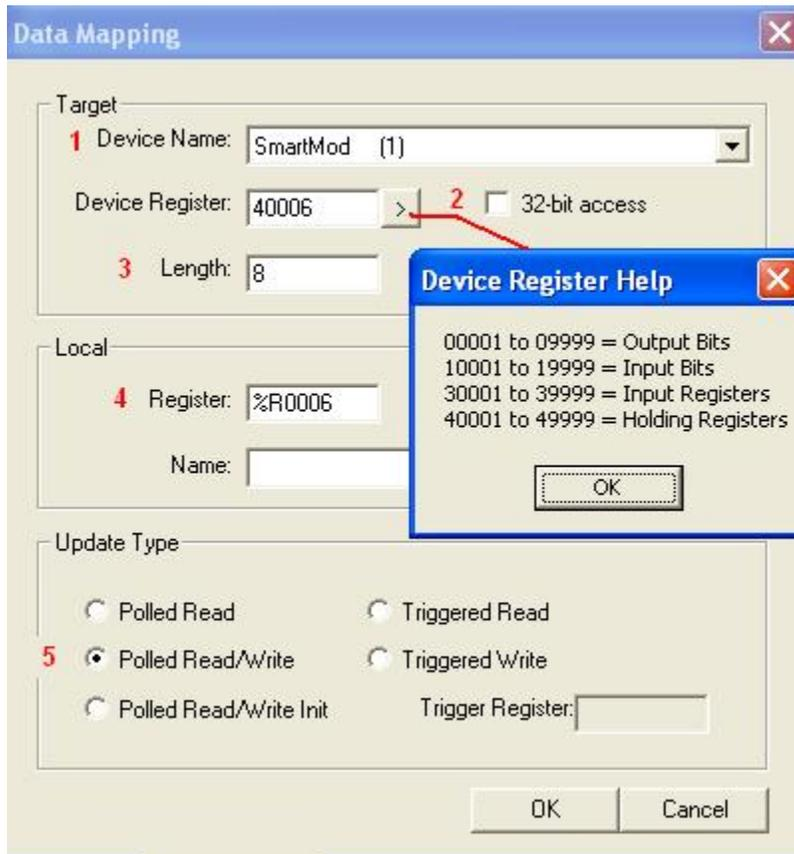

Fig. 5
8. Click **Add** and setup (Fig. 5).